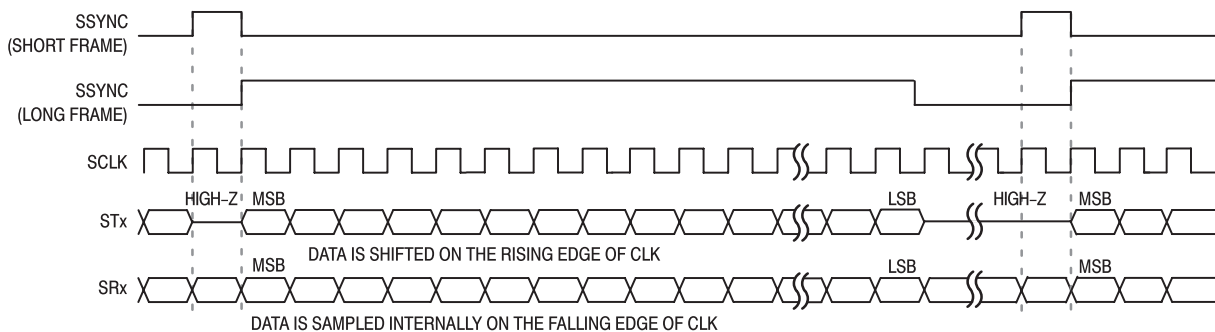

Figure 5. Serial Interface Timing
The MC143416 uses two synchronous serial interfaces. These interfaces consist of four pins each: SCLK, STx, SRx, and SSYNC. The timing relationship of these pins can be seen in Figure 5. The output serial data is registered on the rising edge of SCLK so that each input bit can be sampled on the falling edge of SCLK. The SSIs can be operated in 24-bit or 16-bit, Dual SSI or Single SSI, long frame or short frame. The primary difference between these modes is the number of frames per sampling period and the organization of the words. The serial ports can be configured through three independent pins: SSIDS (data size), SSIFM (framing mode), and SSIMS (mode select). These pins need to be permanently tied to either DGND or DVDD. The pins are global controls applied on both serial ports according to Table 10.
**Frame Mode — Long Frame Sync Mode and Short Frame Sync Mode:** This device is able to generate both long and short framing signals depending on the state of the pin SSIFM. When SSIFM is low, the device operates in Short Frame mode, which is defined as a one-bit-wide clock pulse occurring before the first bit of the data stream (MSB). When SSIFM is high, the device operates in Long Frame mode. In this mode, the framing pulse rises simultaneously with the first data bit (MSB) and falls after the last data bit (LSB) has been shifted out. The different framing modes are shown in Figure 5.